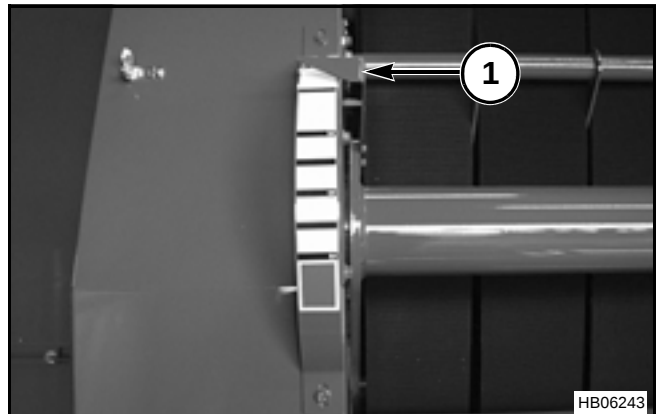

FIG. 27
FIG. 27: The bale size indicator (1) is located on the front right-hand side of the baler. As the bale increases in size, the bale size indicator pointer will move down. Begin wrapping the bale immediately when the bale has reached the desired size.